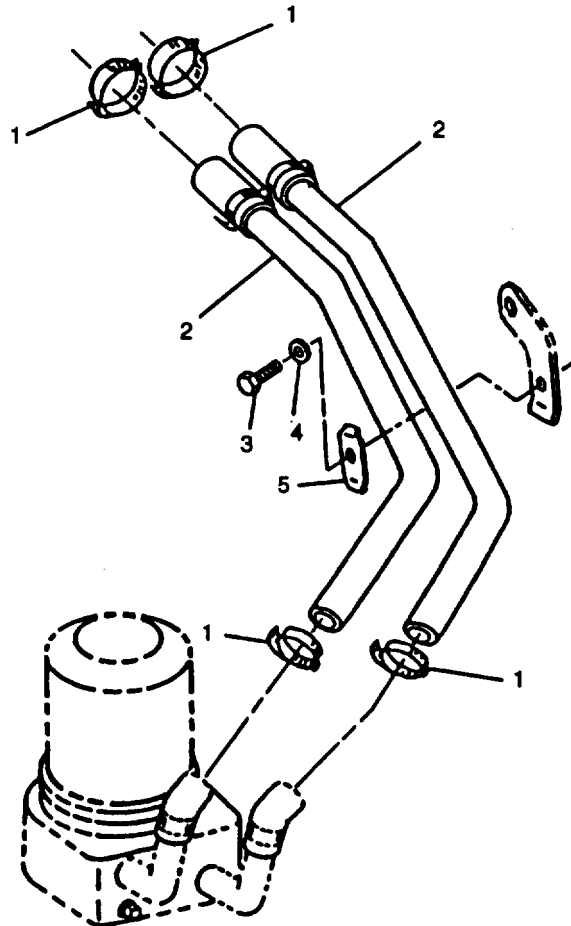

FIGURE 3-3. Engine Oil Cooler Hoses
- c. Loosen four hose clamps (1, FIGURE 3-3) and disconnect cooler hoses (2) at water pump.
- d. Remove screw (3) and washer (4) and remove clamp (5). Disconnect and remove hoses (2).
- c. Position alternator adjusting strap (3) and secure with capscrew (1) and new lockwasher (2). Tighten capscrew to 35 ft-lbs (47 Nm).
- g. Install two oil cooler hoses (2, FIGURE 3-3) and secure to water pump and engine oil cooler with four hose clamps (1). Install clamp (5) with screw (3) and washer (4).